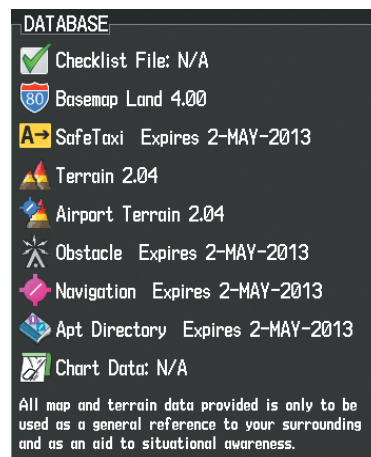

Figure B-10 Database Information on the Power-up Screen
- 4) Apply power to the system, check that the databases are initialized and displayed on the power-up screen (Figure B-10). If a 'Verifying' message is seen, wait for the system to finish loading before proceeding to step 5.
- 4) Apply power to the system, check that the databases are initialized and displayed on the power-up screen (Figure B-10). A 'Verifying' message may be seen. If this message is present, wait for the system to finish loading before proceeding to step 5.